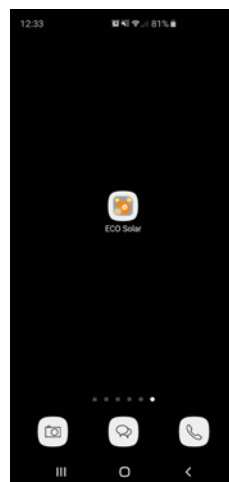

Fig. 3
3. If connection was successful the WiFi symbol can be seen. Fig 3